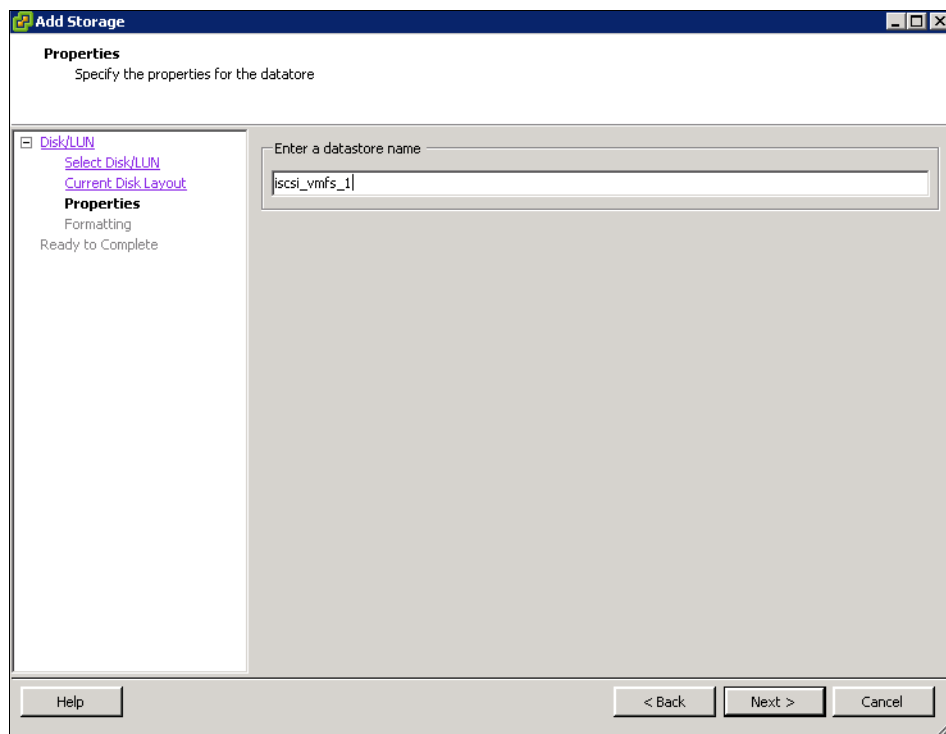

Figure 12-55 Enter a data store name
10. Enter a name for the data store and click **Next** (Figure 12-55).